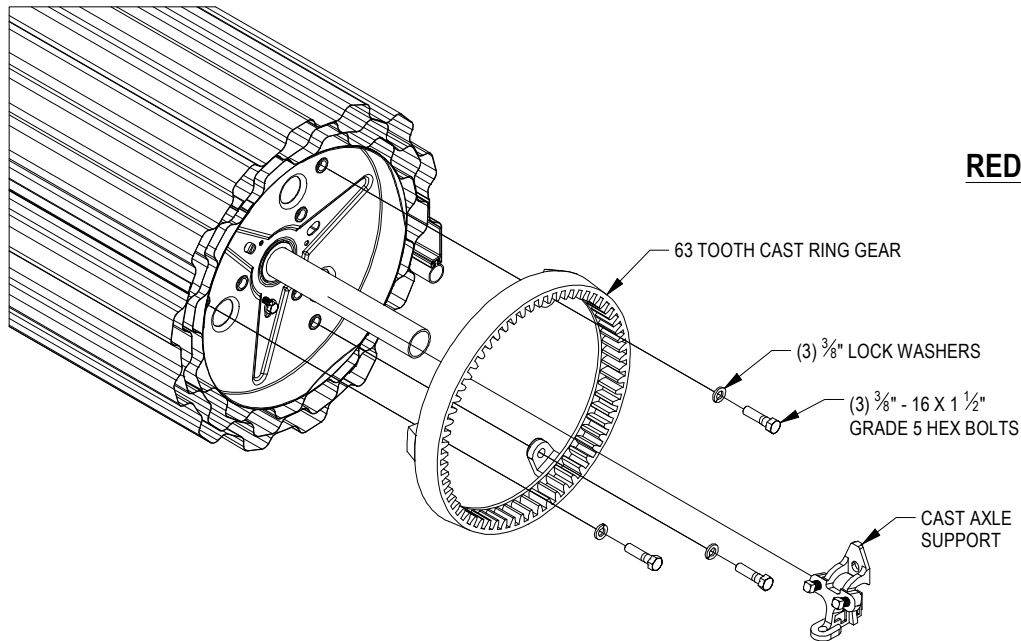

FIGURE 15:
- Fasten 63 Tooth Cast Ring Gear to drum using three (3) each $\frac{3}{8}$ " - 16 x 1 $\frac{1}{2}$ " Grade 5 Hex Bolts and $\frac{3}{8}$ " Lock Washers.
- Install two (2) each $\frac{3}{8}$ " - 16 x 1" Square Head Set Screws in the threaded holes in the Cast Axle Support. These will be tightened against the axle later.
- Slide Cast Axle Support over axle. **See Figure 15.**